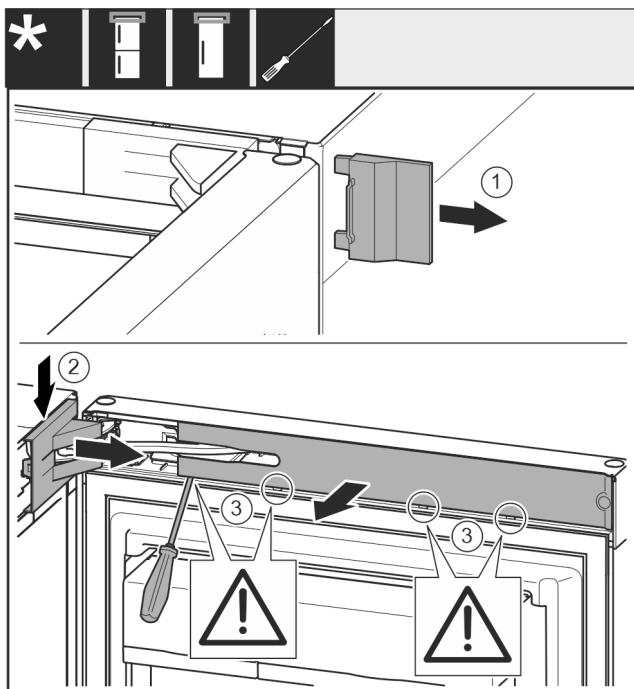

Fig. 9
- Remove the cover Fig. 9 (1).
- Snap out the swap bearing block cover Fig. 9 (2) and loosen it.
- Take off the swap bearing block cover Fig. 9 (2).
- Use a slotted screwdriver to snap out the faceplate Fig. 9 (3) and swivel it to the side.